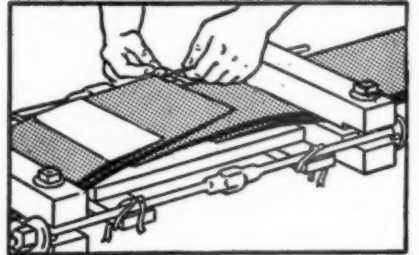

Figure 12
8. Fasten working platform (Fig. 12).